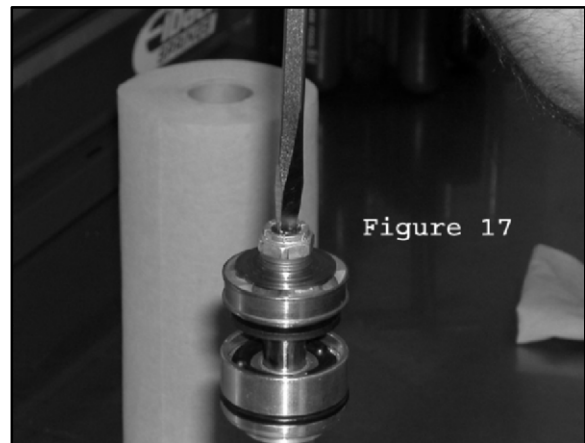

Figure 17
42. Using a 1/4" Flat Blade Screwdriver (newer jets use a 5/32" internal hex), remove rebound jet from end of shaft by rotating it in a counter-clockwise direction. (Fig. 17)